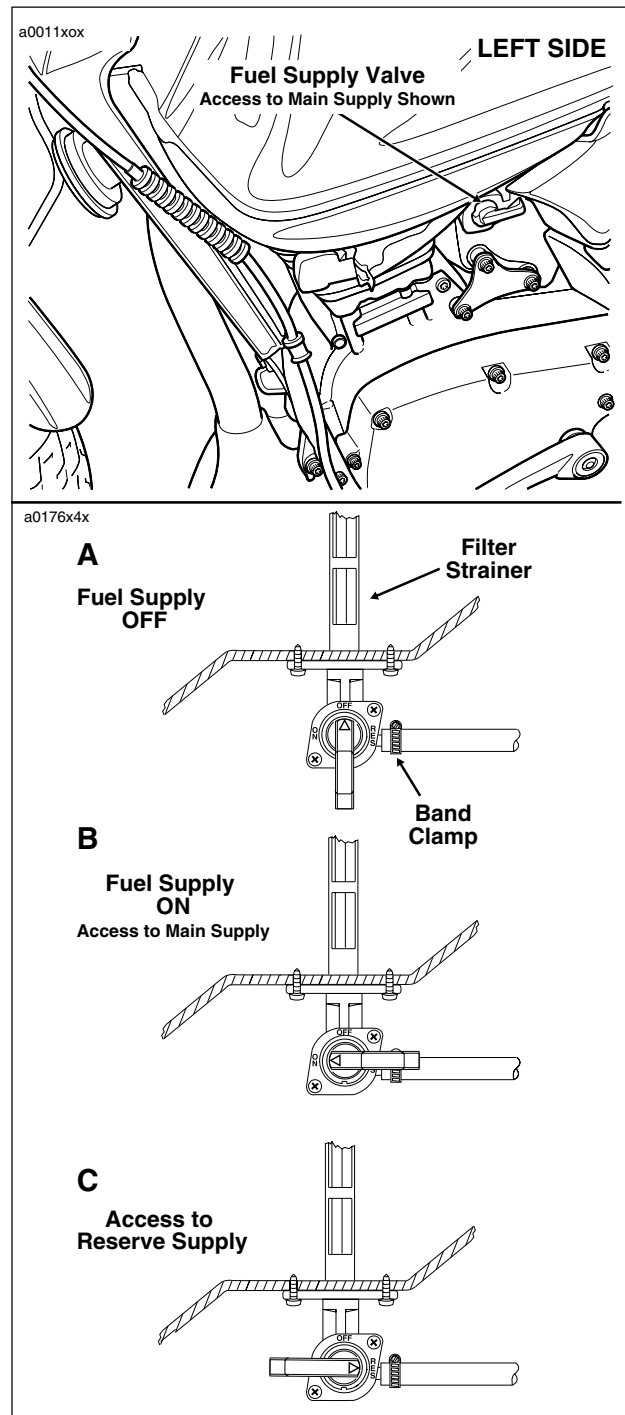

Figure 4-5. Fuel Supply Valve
8. Rotate the 3-position valve handle on the fuel valve to the fully vertical position to shut the gasoline supply to the carburetor OFF. See A of Figure 4-5.
The fuel supply valve is located under the fuel tank on the left side of the vehicle. The gasoline supply to the carburetor is dependent upon the position of the valve handle. See upper frame of Figure 4-5.
Turning the 3-position valve handle to the fully vertical position shuts the gasoline supply to the carburetor OFF. Moving the valve handle counter-clockwise to the horizontal position turns the main fuel supply ON. Turning the handle clockwise to the horizontal position accesses the RES(ERVE) supply. See Figure 4-5.
- a. Rotate handle on the fuel supply valve to the fully vertical position to shut the gasoline supply to the carburetor OFF. See A of Figure 4-5.
- e. Rotate handle of fuel supply valve to RES(ERVE) to start the flow of fuel. See C of Figure 4-5.
- d. Rotate handle of fuel supply valve to RES(ERVE) to start the flow of fuel. See C of Figure 4-5.